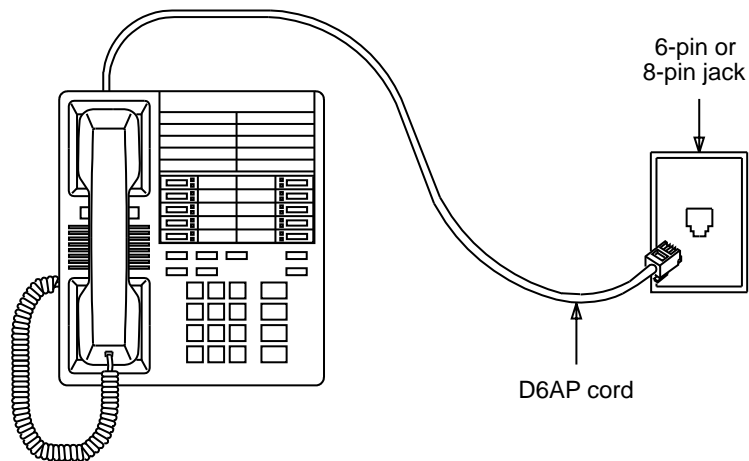

FIGURE 5-3. U-Interface 6504 (or 6508) Telephone With Central Power Source
10. Refer to Figures 5-3 through 5-8 to see how to connect your 6504 telephone to the network. (These figures are also applicable to connecting a 6508 telephone to the network.)
Figures 5-3 and 5-4 show you how to connect your U-interface 6504 telephone to the network. Before you make the connections, determine which configuration is appropriate for you. For more information on power supply refer to the **Overview of Equipment** and the **Bulk Power Supply** sections.